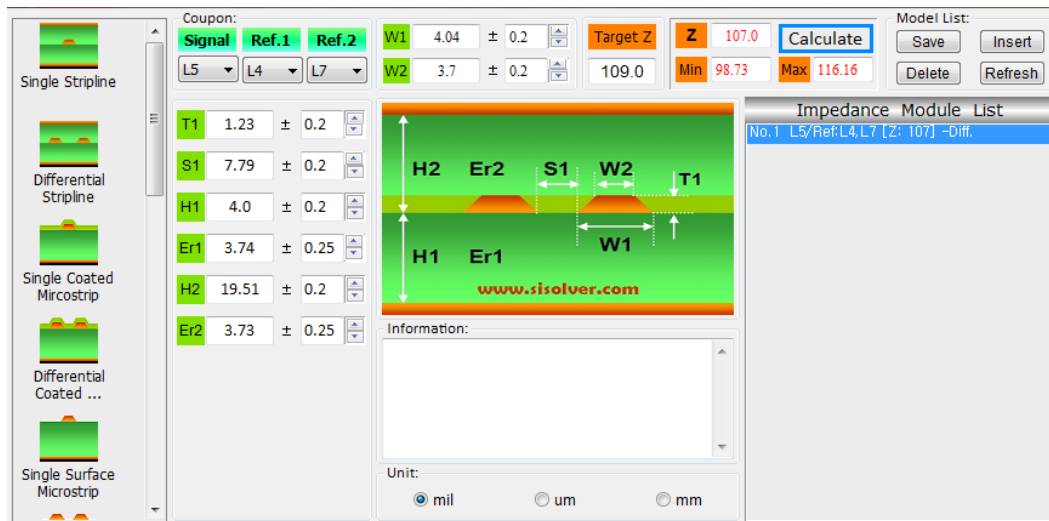

Figure 13: Impedance Model simulation
- Impedance Model simulation, refer to Figure 13